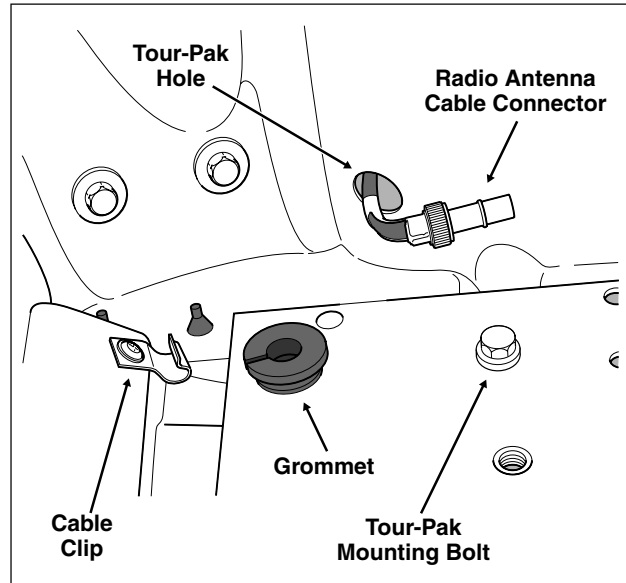

Figure 2-141. Feed Main Harness Thru Tour-Pak Hole
5. Feed main harness conduit and connectors through hole in Tour-Pak. See Figure 2-141.
6. Feed main harness conduit and connectors through hole in Tour-Pak. See Figure 2-141.